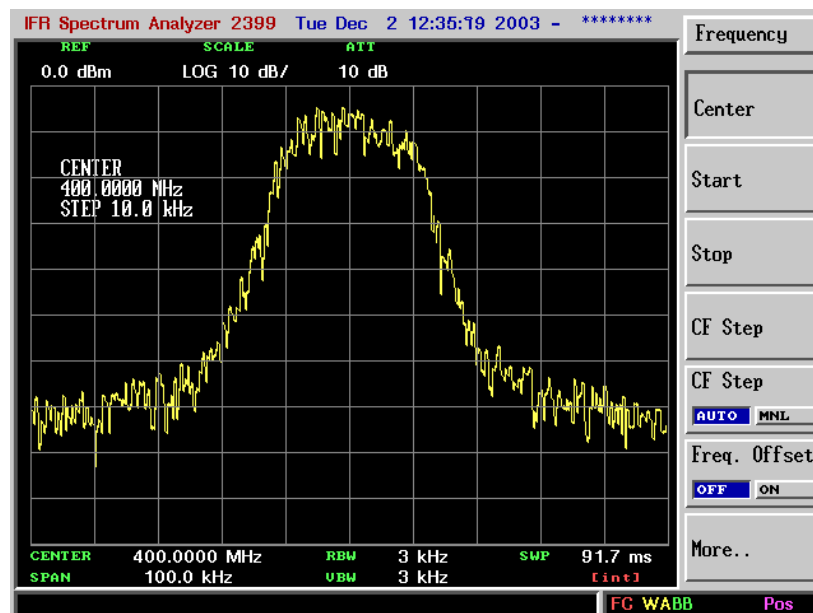

Fig. 6-10 Spectrum analyser display showing $\pi/4$ DQPSK modulated carrier
- 6 The trace on the spectrum analyzer should appear as shown in Fig. 6-10.